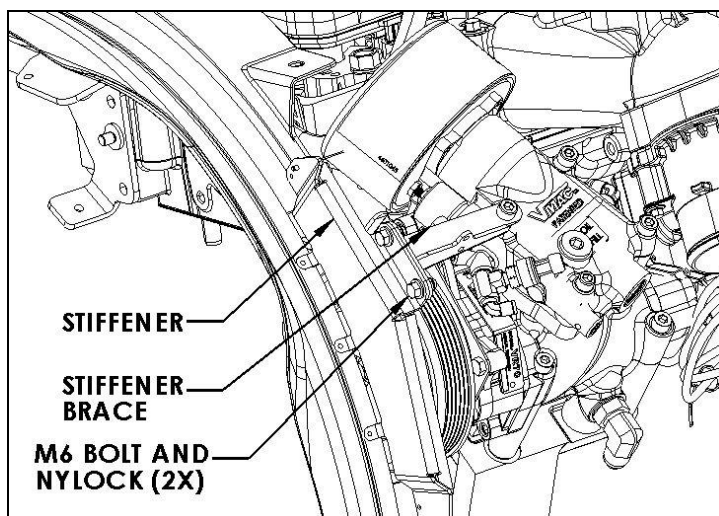

Figure 4.4 (some components omitted for clarity)
- ☐ Install inlet valve per Figure 4.4. Do not torque bolts yet.
- ☐ Connect fan shroud brace to fan shroud stiffener per Figure 4.4.